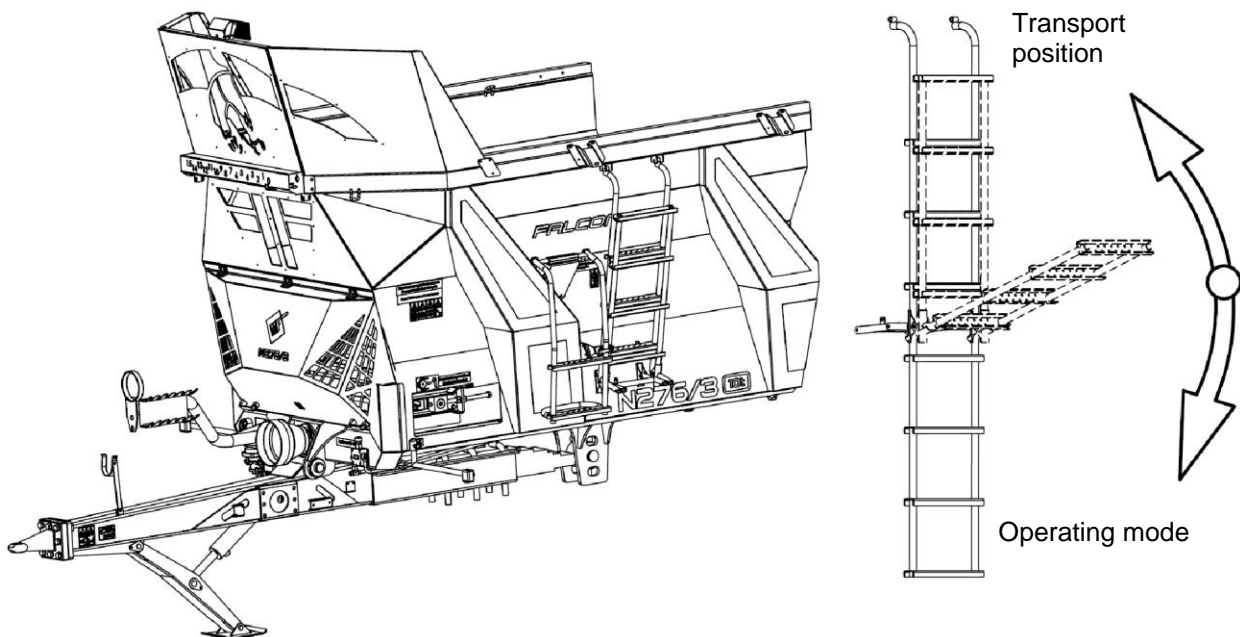

Fig. 11. External ladder
The figures (Fig. 11, 12, 13) show a folding ladder and an internal ladder that allows access to the load body for cleaning maintenance or repair purposes only.
1. Unfold the external ladder to the working position (Figure 11).
2. Unfasten the rubber tensioning element (1).
3. Unfasten the ladder from the lower bracket (2).
4. Slide the ladder up (3).
5. Place the ladder inside the box in the brackets provided (5).